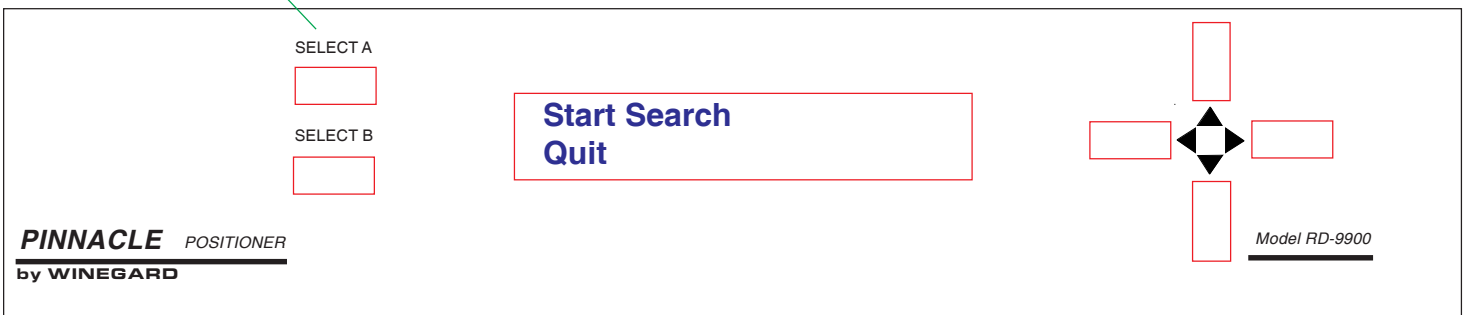

Figure 4
8. Press **[SELECT A] Start Search**, Figure 4. This will begin the search for satellite operation. If you selected the wrong city press **[SELECT B] Quit**, this will return you to step 3. Repeat 3 through 7 to select the correct city.